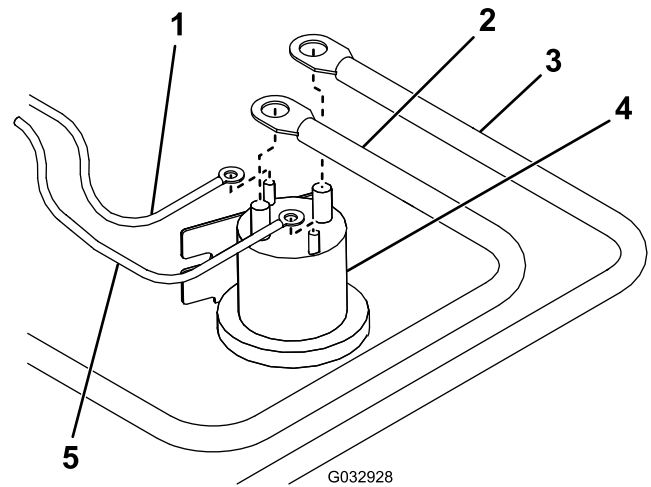

Figure 19
18. Connect the white/black wire from the wire harness to the small post on the pump solenoid (Figure 19).
19. Connect the brown wire from the wire harness to the other small post on the pump solenoid (Figure 19).
21. Connect the red power/ground cable to the large post on the pump solenoid (Figure 19).
22. Connect the battery cable to the other large post on the pump solenoid (Figure 19).